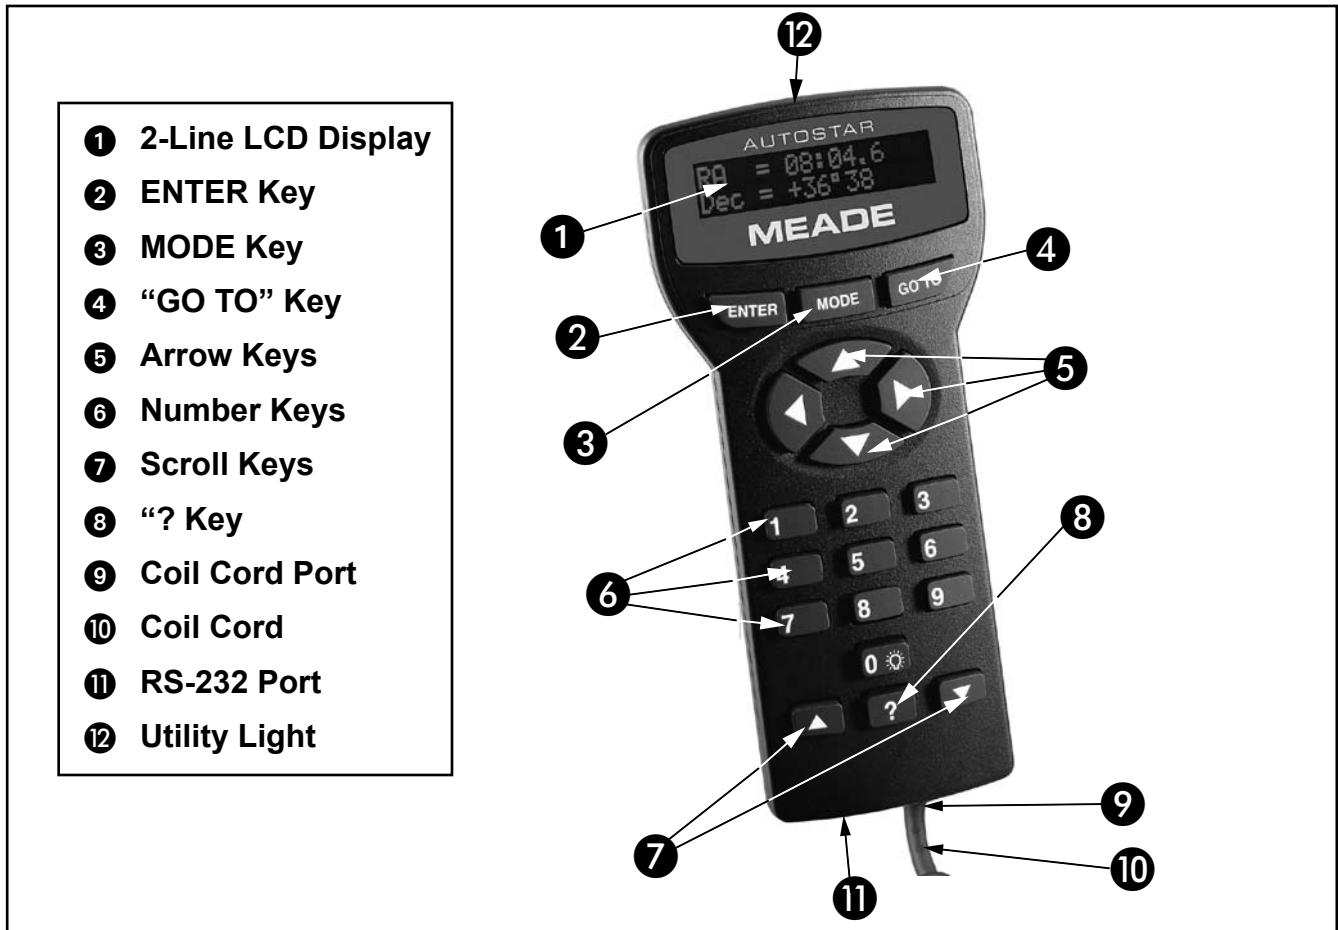
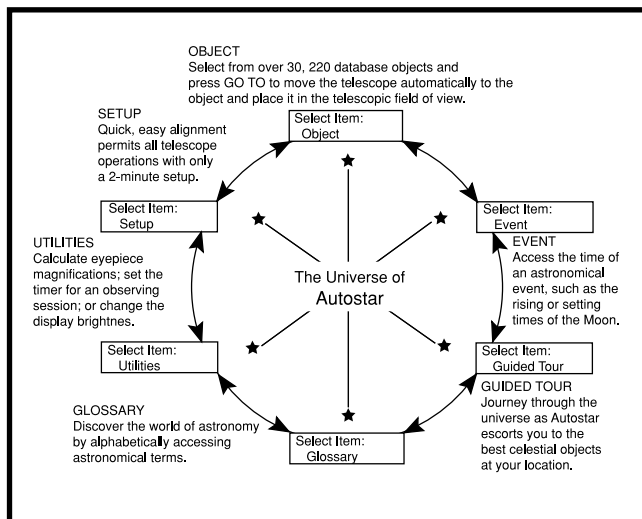

Figure 10: *The AutoStar #497 Handbox*
Fig. 11: The AutoStar Universe: The six primary categories listed in the Select Item menu of AutoStar.
If MODE is pressed and held for two seconds or more, information about the telescope's status displays. When the status displays, press one of the Scroll keys (Pg. 20, Fig. 10, 7) to display the following information:
- 9 **Coil Cord Port:** Plug one end of the AutoStar coil cord into this port (pg. 20, Fig. 10, 9) located at the bottom of the AutoStar handbook.
- 10 **Coil Cord:** Plug one end of the AutoStar coil cord into the HBX port (Pg. 20, Fig. 10, 10) of the computer control panel of the telescope and the other end into the coil cord port.
3. The Arrow keys are now activated. Press the Arrow keys (Pg. 20, Fig. 10, 5) to slew (move)
4. Press a Number key (Pg. 20, Fig. 10, 6) to change the telescope's slew speed. See Slew Speeds, on pg 20 for more information.
It is important to understand that menu selections are set in a loop (Fig. 11). This means that pressing the Scroll Down key (Pg. 20, Fig. 10, 7) cycles down through all the available options within a given category, then returns to the first option. The Scroll Up key (Pg. 20, Fig. 10, 7) cycles up through the options in the opposite order. Note that this capability is a quick way to get to an option that is near the bottom of the list. The following example demonstrates this capability.